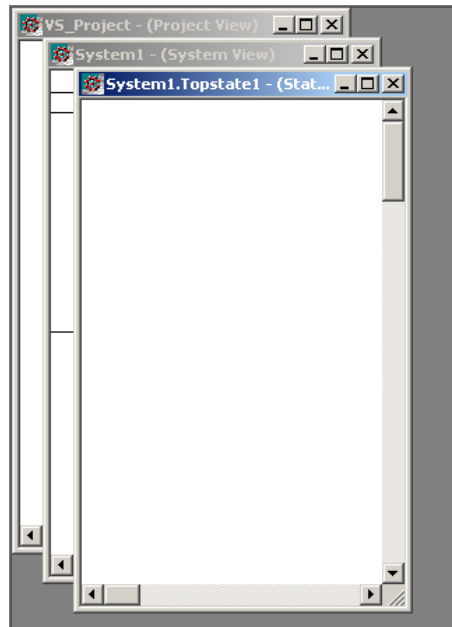

Figure 81: Diagram window, with empty statechart diagram
- 6 In the topstate drawn, not on the topstate name, double-click. The statechart diagram view is opened. See *Figure 81*, page 100